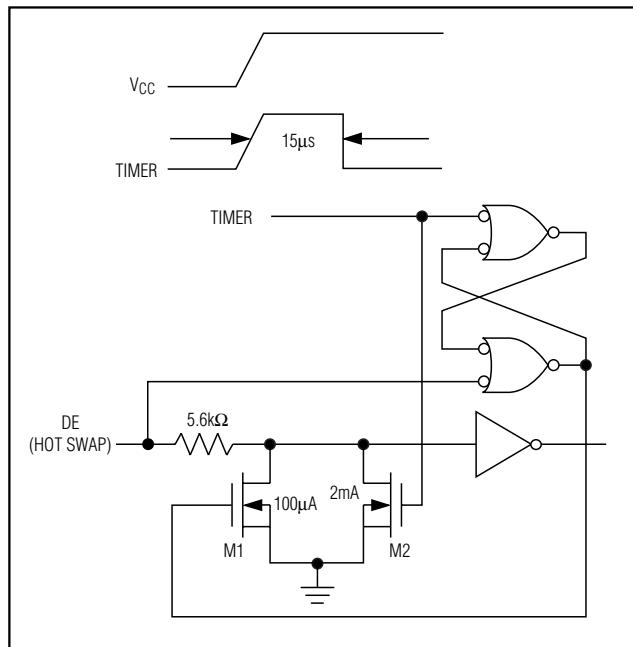

Figure 11. Simplified Structure of the Driver Enable Pin (DE)
At the driver enable input (DE), there are two NMOS devices, M1 and M2 (Figure 11). When VCC ramps from zero, an internal 15 μs timer turns on M2 and sets the SR latch, which also turns on M1. Transistors M2, a 2mA current sink, and M1, a 100 μA current sink, pull DE to GND through a 5.6k Ω resistor. M2 pulls DE to the disabled state against an external parasitic capacitance up to 100pF that may drive DE high. After 15 μs , the timer deactivates M2 while M1 remains on, holding DE low against three-state leakage currents that may drive DE high. M1 remains on until an external current source overcomes the required input current. At this time, the SR latch resets M1 and turns off. When M1 turns off, DE reverts to a standard, high-impedance CMOS input. Whenever VCC drops below +1V, the input is reset.